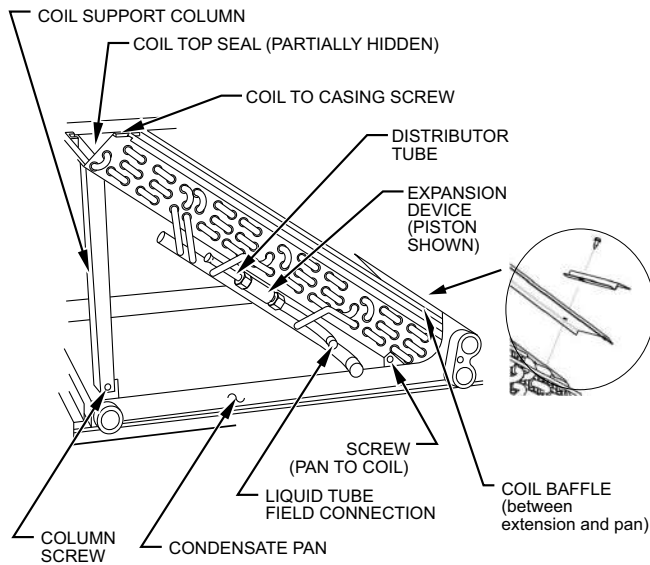
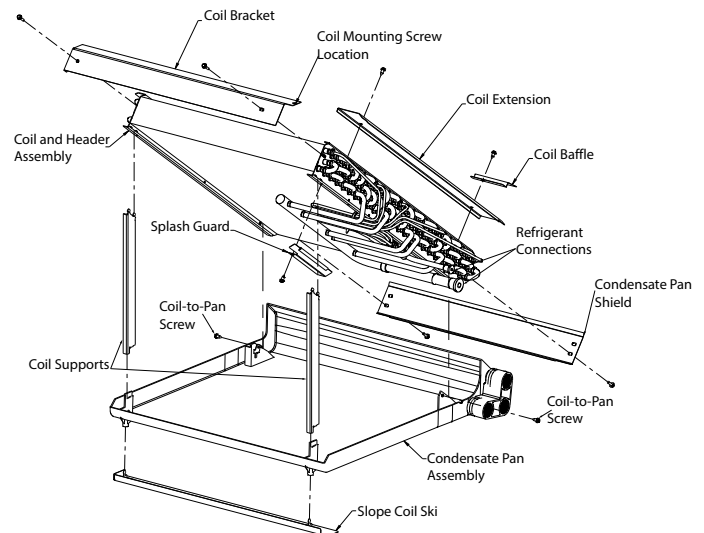

Fig. 30 – Slope Coil Component Location (Prior to 1996) A14304
Fig. 31 – Slope Coil Component Location (1996 and Later) A14307
8. Place assembly on a flat surface. On units manufactured prior to 1996, remove two screws securing coil support columns to pan (Fig. 30).
10. Remove two screws securing coil to condensate pan (Fig. 30 and Fig. 31).
12. Attach new painted Top Seal to new coil using brass colored screws included with packaging (Fig. 30 and Fig. 31).
13. Remove screw at bottom of coil extension and reuse to attach Coil Baffle in same location. Long side of baffle toward pan (Fig. 30 and Fig. 31).
15. Install new coil pan assembly into unit and secure with one screw previously removed from unit casing (Fig. 30).